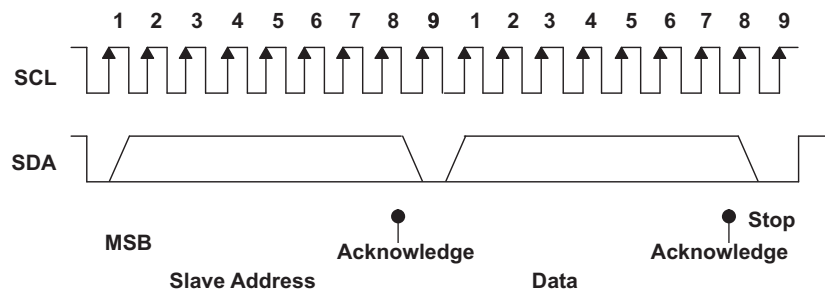

Figure 74. I²C Address and Data Cycles
- The master generates further SCL cycles to either transmit data to the slave (R/W bit 1) or receive data from the slave (R/W bit 0). In either case, the receiver must acknowledge the data sent by the transmitter. Thus, an acknowledge signal (A) can either be generated by the master or by the slave, depending on which one is the receiver. The 9-bit valid data sequences consisting of 8-bit data and 1-bit acknowledge can continue as long as necessary (see Figure 74).